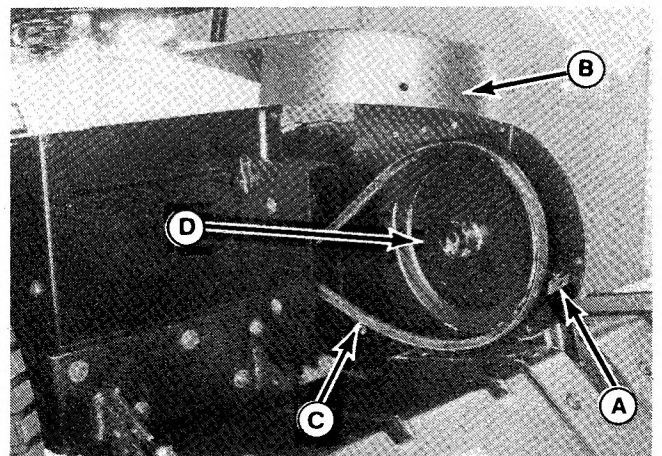

Figure 10.
9. Remove wingscrew (A, Figure 10) and open tiller cover (B). Install belt (C) around tiller pulley (D). Close tiller cover and secure with wingscrew.
6. Remove wingscrew (A, Figure 10) and open tiller cover (B). Remove belt (C) from tiller pulley (D). Close cover and secure with wingscrew.